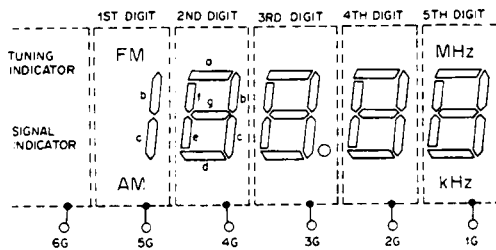
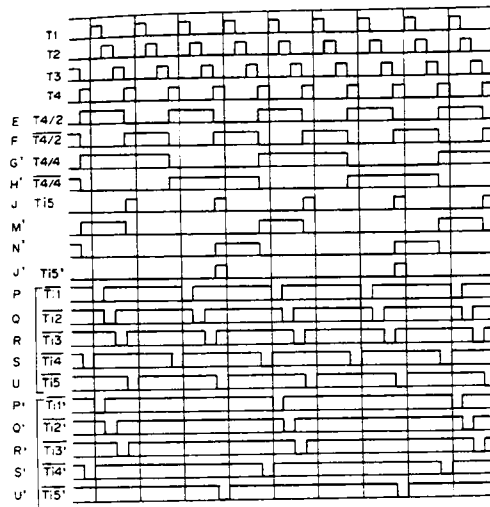
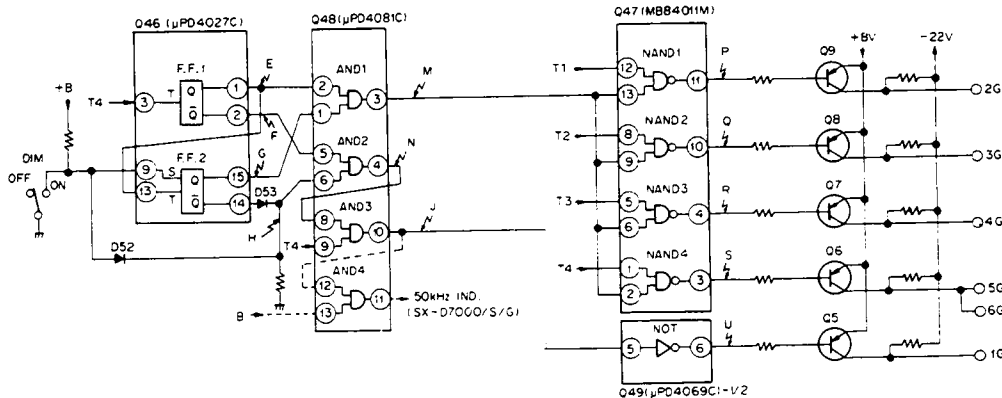
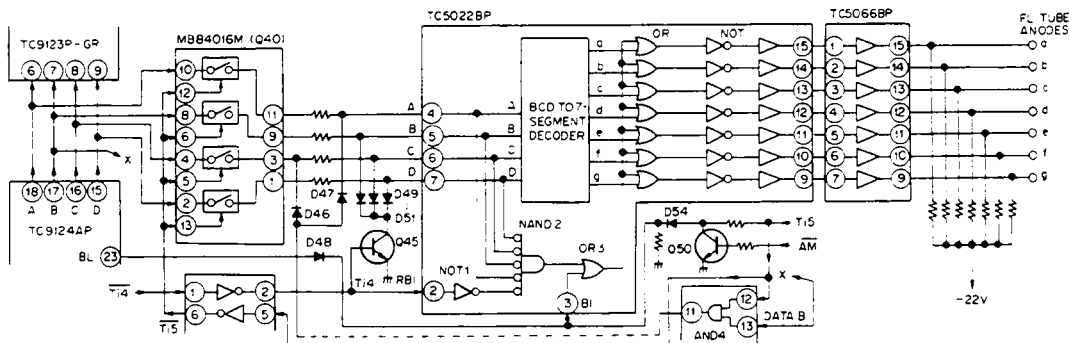

Fig. 4-13 FL Tube 5-digit Digital Display
Fig. 4-15 Time Division Pulse Time Chart
Fig. 4-14 Time-share Converter Logic Circuit
Fig. 4-16 Anodes of the FL Tube Drive Circuit
The SX-D7000 displays the selected station frequency on a 5-digit digital display using a fluorescent indicator tube (FL tube) as a source. As noted in Fig. 4-13, the FL tube display grids are divided into five independent units. Drive is by the dynamic time division method; a time cycle is divided into five divisions, and each digit pulsates in a recurring sequence. The flicker inherent in this method is not detectable by the human eye.
Fig. 4-14 illustrates the configuration of the timeshare converter logic. The terminals 1G thru 6G noted on the right side of the figure are connected to the FL tube grids (See Fig. 4-13). When no time division pulses (T1–T4) are present, the NAND gates 1 thru 4 (Q47) and the NOT gate (Q49) output P, O, R, S, and U respectively at a high level. Thus, Q5 thru Q9 are off; the FL tube grids are reverse-biased, and no light is emitted.
Fig. 4-15 shows the time division pulse time chart. When the dimmer switch is in the OFF position, the time division pulses U, S, R, Q, and P shown in Fig. 4-15 are applied to the bases of Q5 thru Q9. One by one they become active, providing dynamic time division drive to the 5-digit display. When the dimmer switch is in the ON position, time division pulses U', S', R', Q', and P' are applied to the bases of Q5 thru Q9. The frequency of occurrence of these pulses is only one half of those occurring when the dimmer switch is in the OFF position, bringing the intensity of illumination of the FL tube down proportionally.
Referring to Fig. 4-14, when the dimmer switch is in the OFF position and pulse T4 (Fig. 4-15-T4) is applied to the clock terminal (T) of flip-flop 1 (Q46), the output E is as illustrated in Fig. 4-15-E. (Flip-flop 1 is reversed on the rising edge of T4, and divides the frequency of the pulse in half.) When a +B signal applied to the set terminal (S) of flip-flop 2 brings it to a high level, output G from the Q terminal goes to high level independent of the input at the clock terminal (T). Output M from AND1 (Q48) is gated by input G at a high level, and is equal to input E. It is illustrated by Fig. 4-15-E. AND2 (Q48) will gate when D52 is conducting, thereby setting input H to a high level. Output N is equal to input F, and is illustrated by Fig. 4-15-F. Output J from AND3 (Q48) is the AND of input N (Fig. 4-15-F) and T4 and is illustrated by Fig. 4-15-J. The output P, Q, R, and S of NAND1 thru 4 (Q47) is the AND negation of input M (Fig. 4-15-E) and T1 thru T4, and is illustrated by Fig. 4-15-P, Q, R, S. Output U from NOT (Q49) is the negation of input J (Fig. 4-15-J) and is shown by Fig. 4-15-U.
In Fig. 4-14, output E of flip-flop 1 is the same regardless of whether the dimmer switch is in the ON or OFF position (Fig. 4-15-E). When the set terminal of flip-flop 2 is at a low level, the input pulse to the clock terminal is halved in frequency. The input to the clock terminal is illustrated in Fig. 4-15-E. Output G from the Q terminal becomes as is illustrated in Fig. 4-15-G'. Output M from AND1 (Q48) is the AND of input E and G and is noted by Fig. 4-15-M'. Output N from AND2 (Q48) is the AND of input F (Fig. 4-15-F)
and H (Fig. 4-15-H') and is illustrated by Fig. 4-15-N'. Output J from AND3 (Q48) is the AND of input N (Fig. 4-15-N') and T4, and becomes Fig. 4-15-J'. NAND1 thru 4 (Q47) outputs P, Q, R, and S. These are the negative AND of input M (Fig. 4-15-M') and T1 thru T4 and are illustrated by Fig. 4-15-P', Q', R', and S'. Output U of NOT (Q49) is the negation of input J (Fig. 4-15-J') and is shown by Fig. 4-15-U'.
The formulation of the numerical digits by the FL tube is accomplished by 7 segments, illustrated as a through g in Fig. 4-13. (The first digit uses only b and c.) TC9124AP transmits the time-shared reception frequency data T1 – T4 as BCD code from terminals A, B, C, and D. (See Table 2.) MB84016M (Q40) in Fig. 4-16 is an electronic switching device activated by the appearance of a $\overline{T}i5$ pulse, as represented by U and U' in Fig. 4-15. It serves to inhibit the transmission of frequency data to the 5th digit. The frequency data is converted from BCD code to decimal number 7-segment display data by TC5022BP. The 7-segment display data is passed through TC5066BP (non-inverting buffer IC) and applied to the anode segments (a thru g) of the FL tube. Each digit shares the segments a thru g connected in parallel,